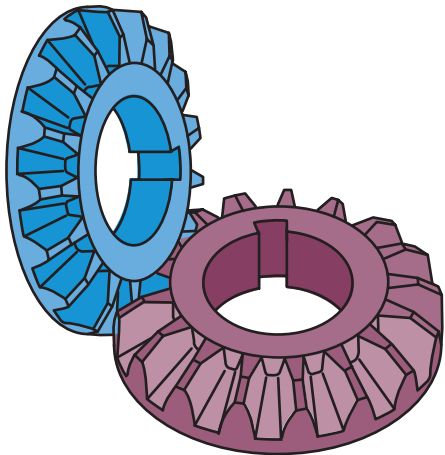

FIGURE 1-11 Bevel gears are commonly used in differentials.
- **Bevel gears**—Bevel gears are used on nonparallel shafts. The outer edge of the gear must be cut on the angle that bisects the angle of the two shafts. In other words, if the two shafts meet at an angle of 90° and the two gears are the same size, the outer edge of the gears will be cut at 45° . The simplest bevel gears have teeth cut straight and are called spur bevel gears. They are inexpensive but noisy. ● **SEE FIGURE 1-11.**